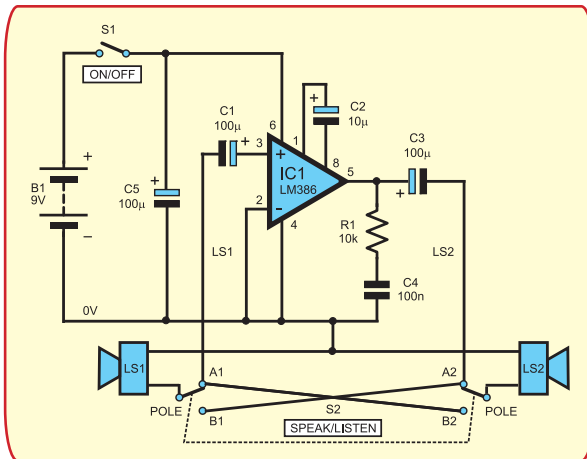

Fig.4.3: Low-Budget Intercom circuit diagram
**T**HE central component in this Intercom project is an integrated circuit designed for audio amplification, type LM386. It is shown as IC1 in Fig.4.3. The circuit shows that it needs few additional components to do its job of amplifying audio signals.